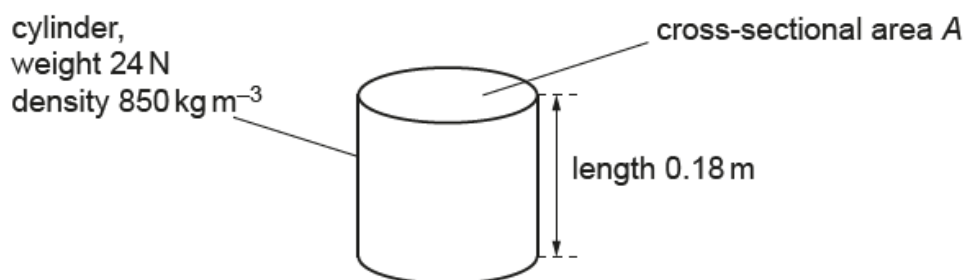

Fig. 1.1
- (a) A solid cylinder of weight 24 N is made of material of density 850 kg m^{-3} . The cylinder has a length of 0.18 m, as shown in Fig. 1.1.